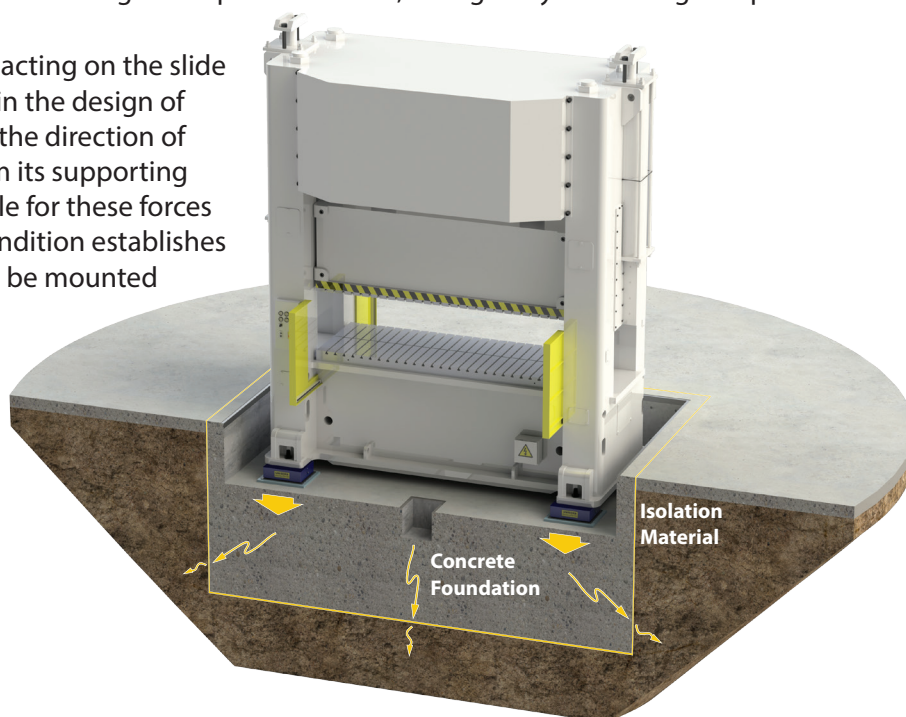

Figure 3
3. Slide inertia forces result from acceleration acting on the slide and are an extremely important consideration in the design of a press mounting system. They act primarily in the direction of slide travel and potentially lifting the press from its supporting surface. In some high speed presses it is possible for these forces to exceed the dead weight of the press. This condition establishes a limitation as to whether or not a press should be mounted on freestanding mounts. Machines which are manufactured with dynamic balancing equipment do not have this problem, and can safely be mounted on press mounts (see Figure 3). Older high speed presses should be securely bolted down, and are good candidates for isolated foundations.